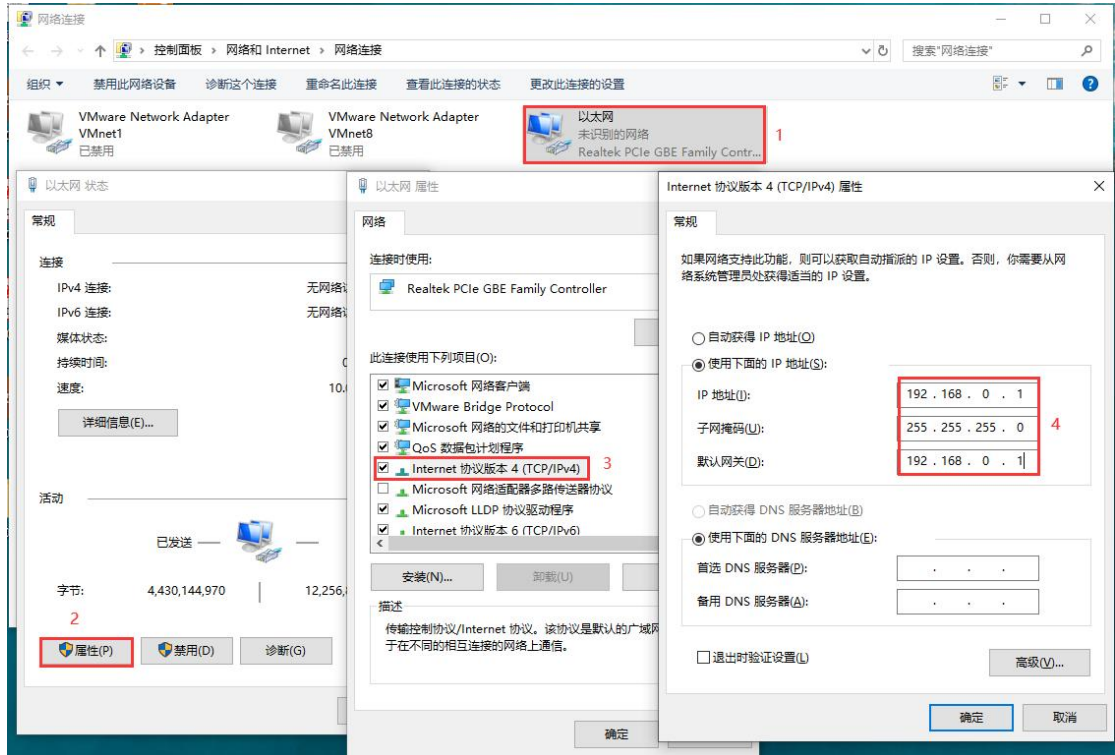

Figure 6-2 Computer IP Setting Interface in Firmware Upgrade Mode
- (1) Set the CFG pin to a low level at power-up to enter the firmware upgrade mode. At this time, the RX \_ LED and TX \_ LED are interleaved. Substitute scintillation;
- (2) Set the computer IP to 192.168.0.1 (or any IP address in the same network segment except 192.168.0.10). As shown in Figure 6-2.